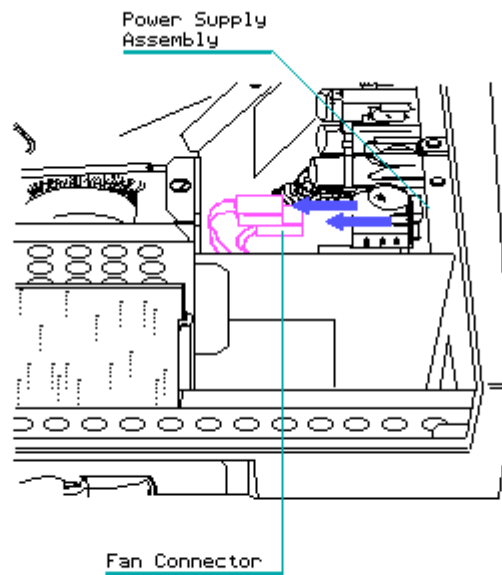

Figure 7.8-7. Disconnecting the Fan Connector from the Power Supply Assembly
3. Disconnect the remaining fan connector from the power supply assembly (Figure 7.8-7).